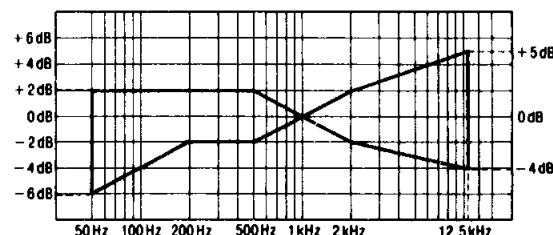

Fig. 12
5. Repeat steps 3 and 4 above for CrO₂ blank test tape (QZZCRX) and Metal blank test tape (QZZCRZ), in these cases raising the upper end of the test signal frequency range to 12.5kHz. Verify that the signal levels at the test frequencies fall in the ranges specified in Fig. 12 with respect to the reference signal level.